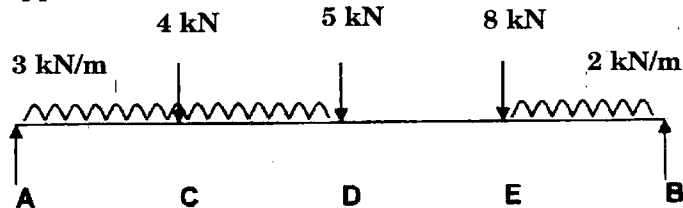

Figure 12(a)(i)
- (ii) Determine the strain energy due to self weight of a bar of uniform cross section ' a ' having length ' l ' which is hanging vertically down. (8)
12. (a) (i) Draw the shear force and bending moment diagram for the simply supported beam shown in figure 12(a)(i). (8)